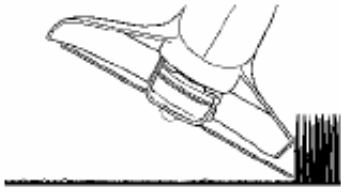

Fig. 17
5. **SCALPING** (Fig. 17). Scalping refers to removal of all vegetation down to the ground. To do this, tilt the string head to about a 30 degree angle to the left. By adjusting the handle you will have better control during this operation. Always keep a distance of 50 feet (15 meters) from other people and animals when scalping. Do not attempt this procedure if there is any chance flying debris could injure operator, other people or cause damage to property.